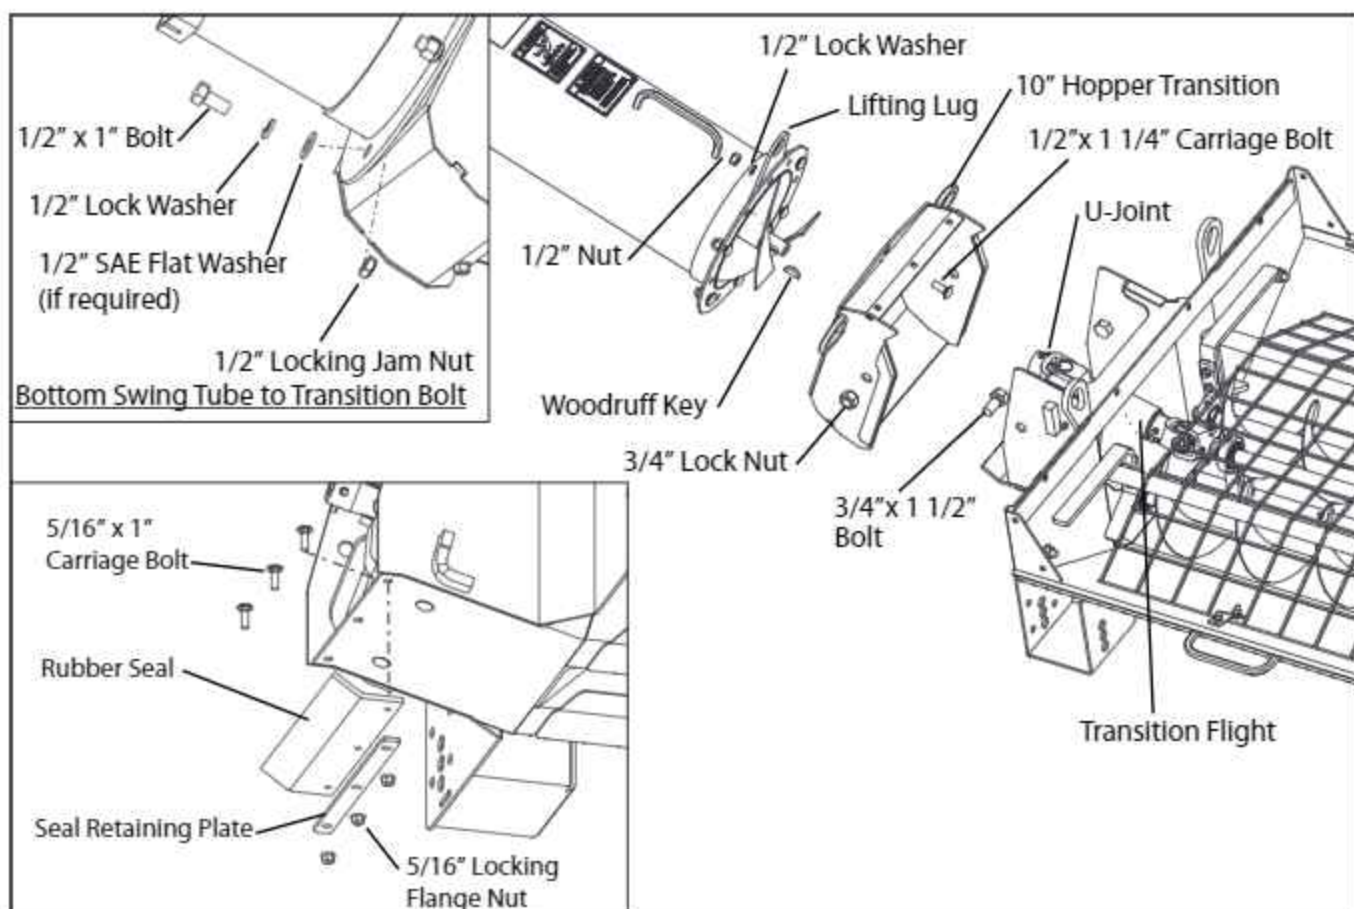

FIG. 3-34. Hopper to Tube Assembly
2. Attach the Hopper Transition to the lower end of the Swing Tube using five 1/2" x 1 1/4" carriage bolts, lock washers and nuts and one 1/2" x 1" bolt, SAE flat washer, lock washer and locking jam nut. See Fig. 3-34.
4. Install the Rubber Seal on the bottom of the Hopper Transition area using the Seal Retaining Plate, three 5/16" x 1" carriage bolts and flange lock nuts. See Fig. 3-34.